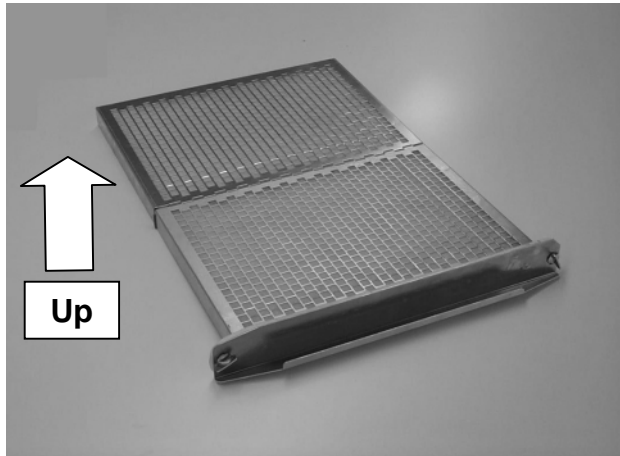

Figure 5: Filter hinge facing upwards
- 5) Install the new filter with the filter hinge facing upwards (see Figure 5).